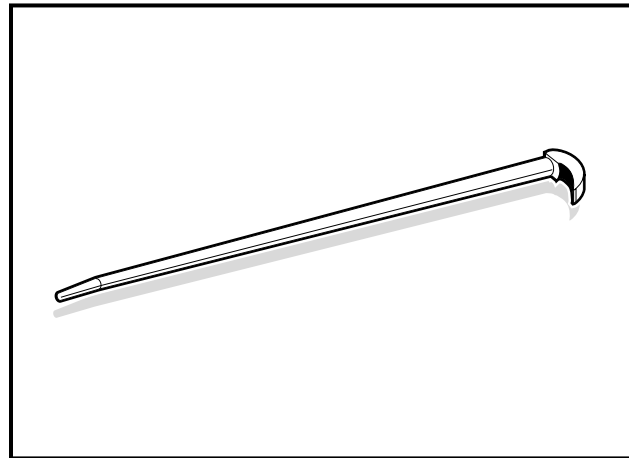
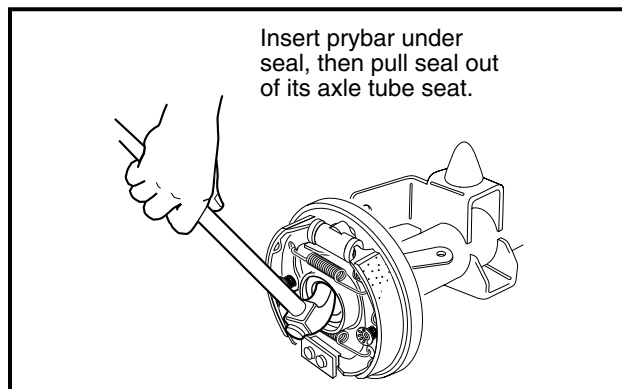

Figure 16-6 Rolling Head Prybar
Figure 16-7 Axle Seal
8. Position a 16-inch (40 cm) rolling head prybar (**Figure 16-6, Page 16-4**) under the inside lip of the seal and pull the oil seal out (**Figure 16-7, Page 16-4**). Discard the oil seal. **See following CAUTION.**